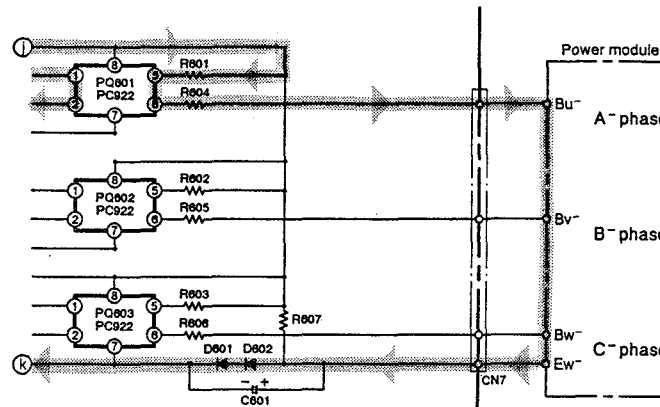

Fig. 7-4
Fig. 7-4 shows the lower arm drive circuit.
- When pin ③⑤ of the micro computer goes "Lo" → "Hi", a photocoupler between PQ601 pins ① and ② turns on and current flows to terminal (i) → R601 → PQ601 → R604 → power module's Bu- terminals → Ew- terminals → D602 → D601 → terminal (K) and drives the lower arm transistors. (Fig. 7-4)
- The signals which turn on or off according to the position detection signals are output from pins ③③ ③④ ③⑤ of the micro computer in the same way as in the upper arm drive circuit and are input to pins ① of photocouplers PQ601 and PQ602 via driver IC1.